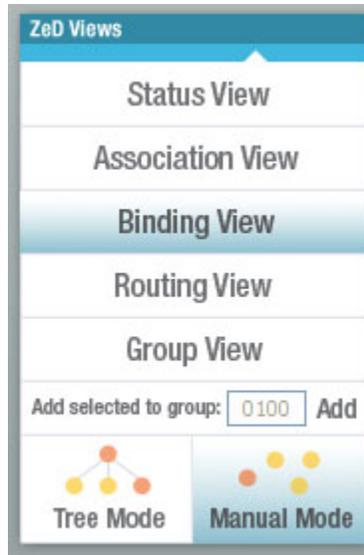

Figure 4-8. ZeD Views Panel with Binding View Active
1. Switch to ZeD Binding View by clicking the Binding View button (Figure 4-8). The Binding View allows users to see the bindings between the devices.